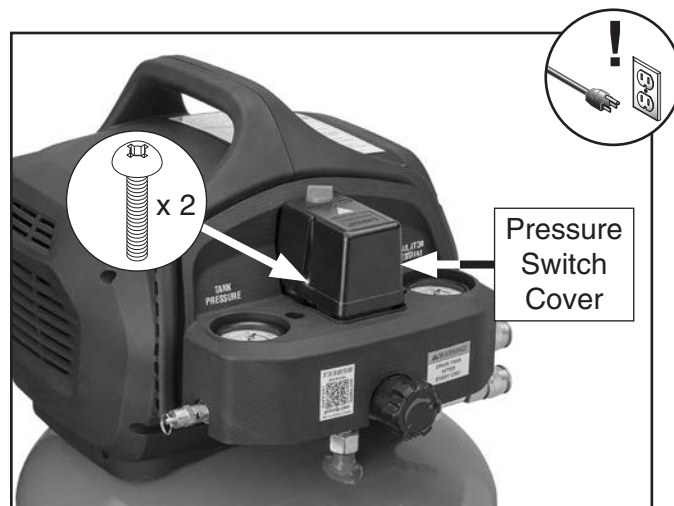

Figure 32. Location of pressure switch cover and Phillips head screws.
4. Loosen Phillips head screws shown in **Figure 32** to remove pressure switch cover.